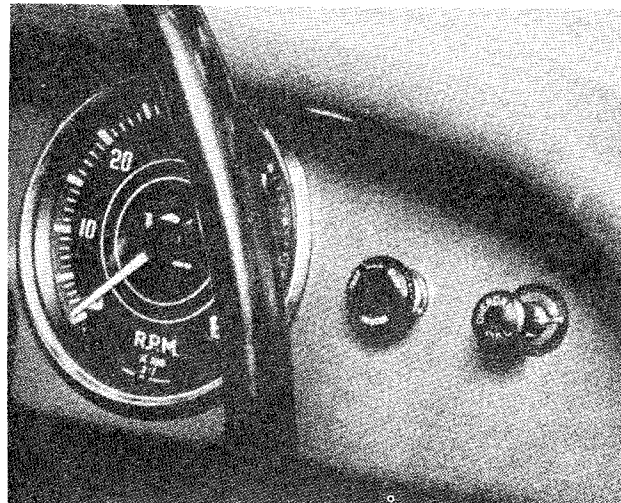

Fig. 37 Showing the position of the Overdrive Control.
R.H. Drive Cars. Two holes are pierced in the facia panel on the R.H. side of the speedometer and covered with fabric. The fabric should be pierced through the extreme R.H. hole and the operating switch fitted (see Fig. 37).